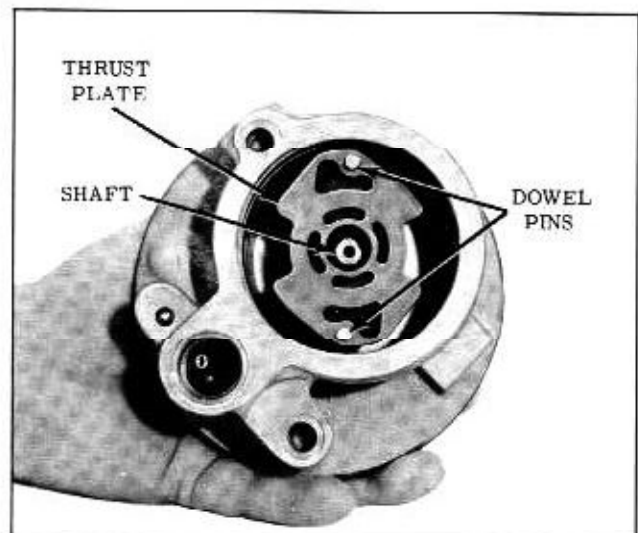

Fig. 4-59 Installing Dowel Pins
2. Insert dowels in holes in body. Install thrust plate on dowel pins with ported face to rear of pump housing. (Fig. 4-59)